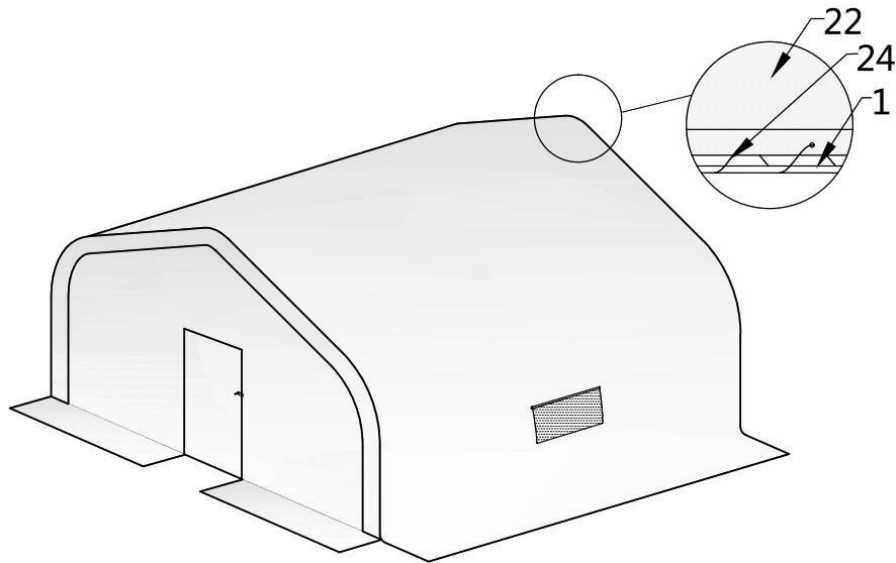

Figure 16
- Pull and stretch the cover enough only to take wrinkles out. Repeat for the rear truss. Do not over stretch as it could rip off the grommets (refer to figure 16)